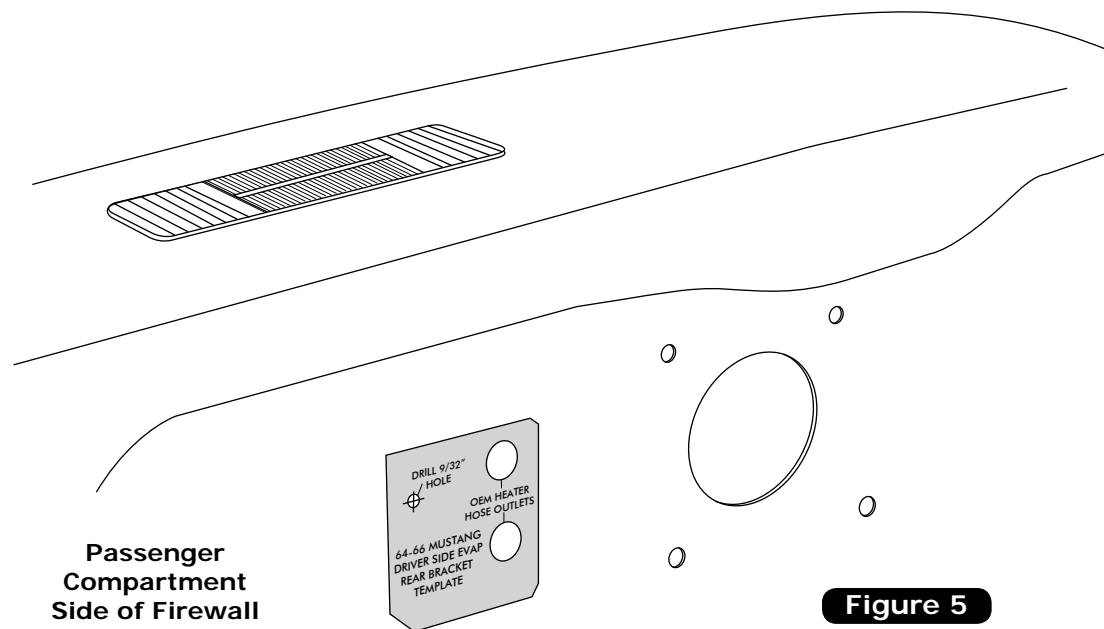

Figure 5
2. Align the template with the OEM heater outlet holes as shown in Figure 5, below. Drill a 9/32" hole as indicated on the template.
1. Install (3) grommets onto the firewall cover as shown in Figure 5, below.